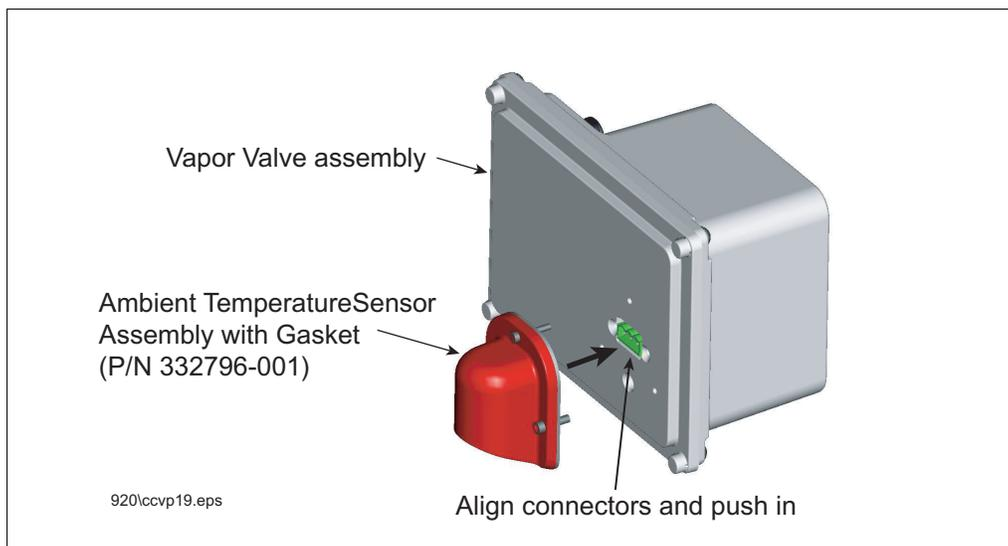

Figure 9. Replacing Ambient Temperature Sensor Assembly
3. Align the replacement Ambient Temperature Sensor assembly's connector with the connector in the Vapor Valve assembly and push in the assembly until it seats against the Vapor Valve assembly (see Figure 9).